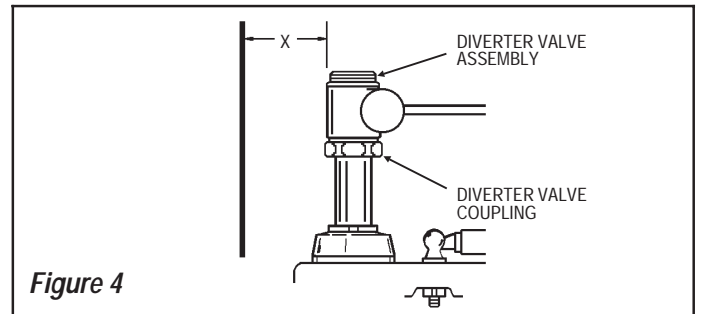

Figure 4
Step 4 — Install Diverter Valve (Figure 4)
Determine required length of support rod by measuring distance between finished wall and back of diverter valve at support rod hole. Add 1/4" (6 mm) to the length determined and cut the support rod to size. Refer to Figure 4.